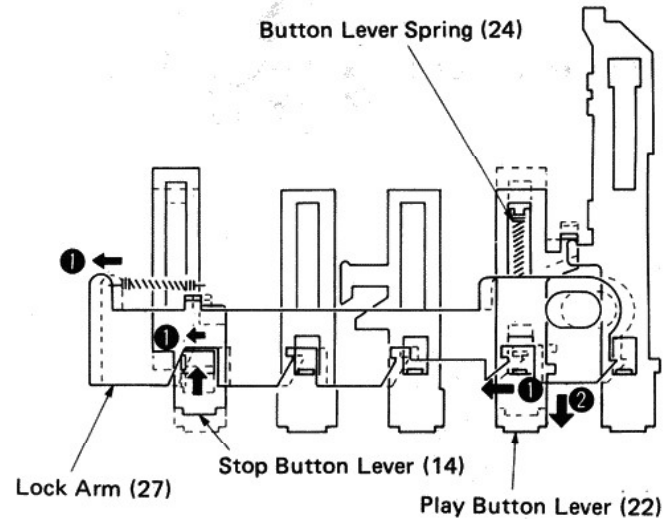

Fig. 14
- 3 When the STOP button is pushed, the lock arm (27) slides in direction ① and the play button lever (22) returns in direction ② by the button lever spring (24) to assume the stop mode. (Fig. 14)